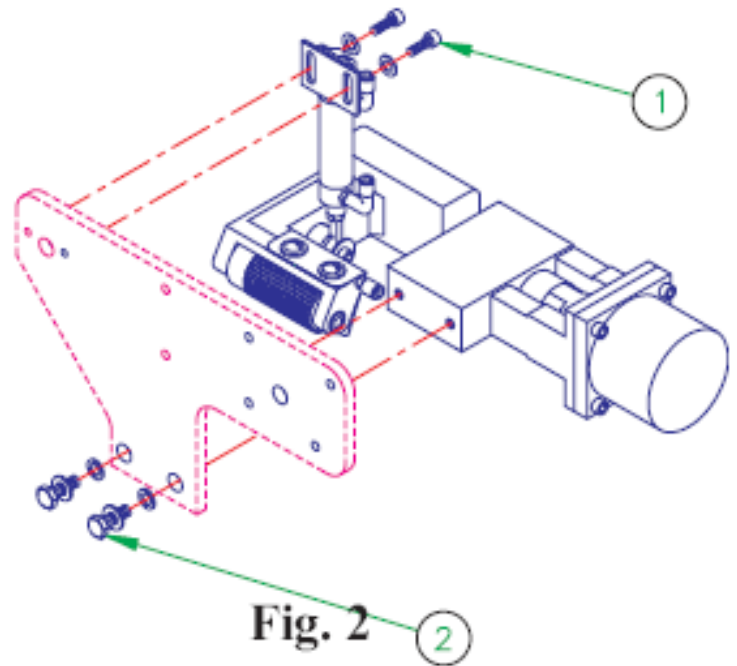

Fig. 2
After the proper height adjustments have been made the roller must be set so that it is level with the chaining plate. This adjustment should be made with the power **OFF**. Care should be taken in making this adjustment, as an improper adjustment may cause thread breakage and skipped stitches during the chaining process. Loosen the two 5/16-18 hex cap bolts (Fig. 2, item 2,) that secure the puller to the mounting bracket. It may or may not be necessary to raise or remove the presser foot to make this adjustment. When the roller is level with the chaining plate tighten the two hex cap bolts.